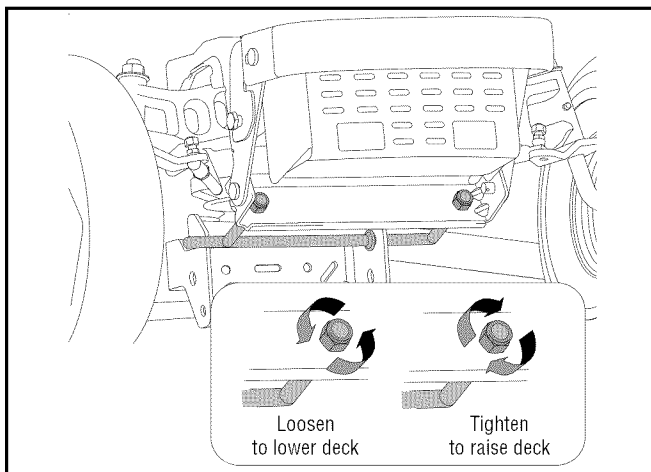

Figure 9
- Locate the two lock nuts on the front side of the stabilizer bracket. See Figure 9. Tighten the lock nuts to raise the front of the deck; loosen the lock nuts to lower the front of the deck.